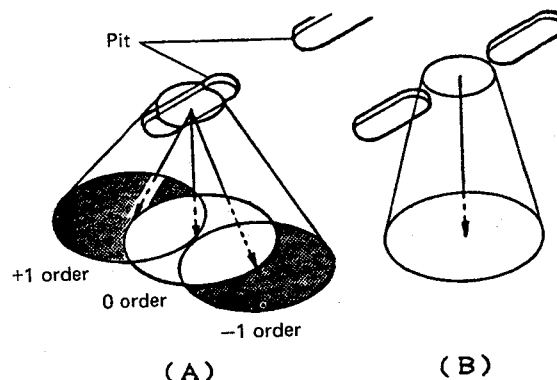

Fig. 4-2
(2) RF and servo signals
The beam, which has been reduced to an extremely small spot by the objective lens, now strikes the disc side on which the signal is located. Part of the beam is then reflected back to the objective lens and photo diode. A diagram showing how this beam is reflected off the disc is shown in figure 4-2. (A) shows what happens when the concentrated beam is directed at a pit. Normally, this reflected light would disrupt the output light beam. In the laser diodes used in CD players, however, noise is reduced instead, resulting in stable performance. This property is very advantageous for the half prism which allows only half of the light energy to pass.